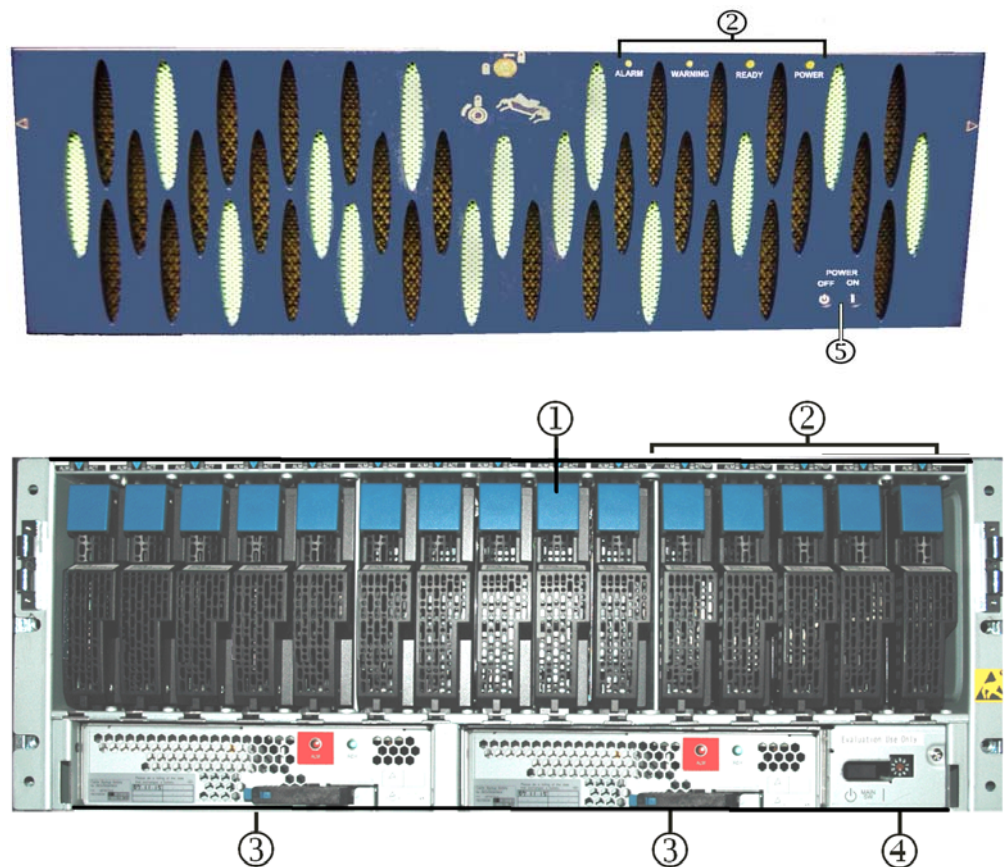
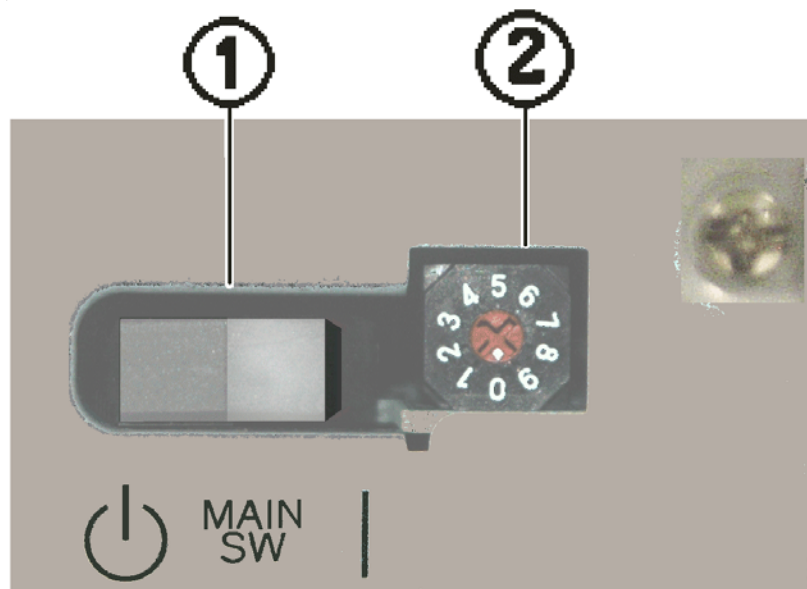

Figure 4-1: AMS 2100 Base Unit Front View
Figure 4-5: Base Unit Switch Panel
As shown by item #1 in Figure 4-1, an AMS 2100/2300 has 15 drive slots in the front of the array. Each slot can accommodate one SATA drive or one SAS drive.
The AMS 2100 and AMS 2300 base units include two cache backup batteries. See items #3 and #4 in Figure 4-1 on page 4-2. Two fully charged batteries can preserve the data in the cache for 24 to 72 hours, depending on the size of the cache and the amount of data in it. See Cache management in Chapter 1 for details.
The base unit switch panel is located at the lower right corner of the front of the array. See item #5 in Figure 4-1 on page 4-2. The panel contains a power on-off switch and a mode switch, as shown in Figure 4-5.
①	Power Switch (labeled Power ON on the front bezel and labeled Main SW on the switch panel). As shown in Figure 4-5 , the power ON/OFF switch is labeled MAIN SW . <ul style="list-style-type: none">• To turn the array power ON, press the right side of the switch (labeled).• To turn the array power OFF, press the left side of the switch.
②	Mode Switch Sets the Uninterruptable Power Supply (UPS) mode to either Local Mode or one of three remote modes. Leave this switch in the local mode (0) position.